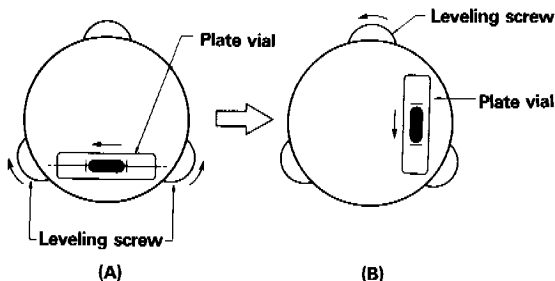

Fig. 4
1. Place the plate vial in parallel with a line joining any two of the leveling screws. Adjust the two screws, and position the bubble in the center of the level (A of Fig. 4). (To adjust the screws at the same time, turn them in opposite directions.)
2. Rotate the plate vial through  $90^\circ$  around the vertical axis. Adjust the remaining leveling screw so that the bubble comes to the center of the plate vial (see Fig. 4 (B)).
- See arrows in Fig. 4 (A) and (B) for the relation between the direction of leveling screw rotation and the bubble shifting direction.